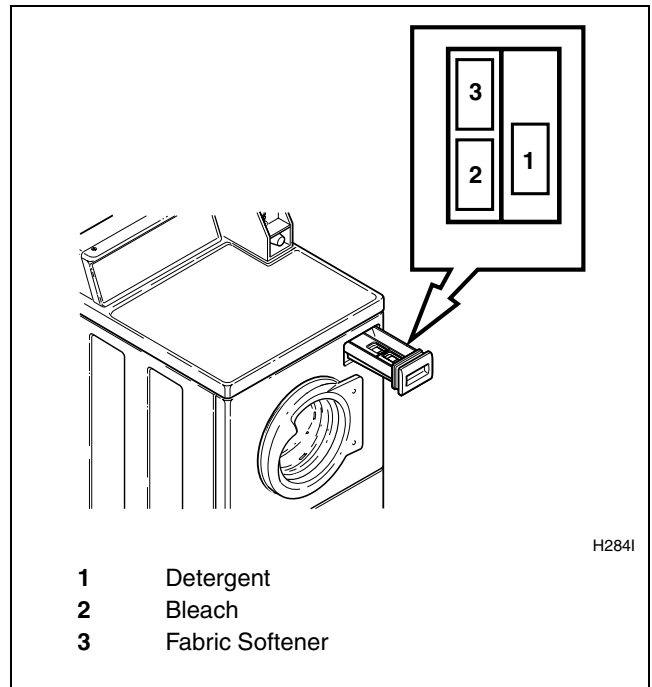

Figure 31
Open dispenser drawer. Measure and add low sudsing detergent (1), bleach (2) and fabric softener (3) to the dispenser drawer (refer to *Figure 31*). Close dispenser drawer.